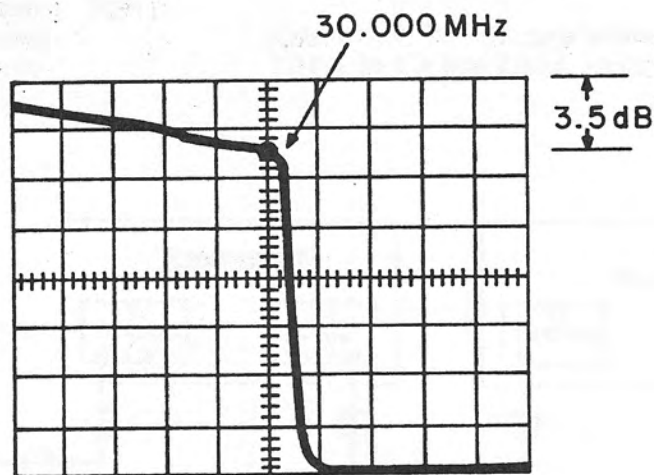

Figure 6-2. RF Filter Alignment, Typical Response
(11) While observing spectrum analyzer, adjust L1 through L5 of A2A1 for maximum amplitude at 30.000 MHz and sharpest roll-off above 30.000 MHz. See figure 6-2 for typical waveform.
(12) Increase tracking generator output 10 dB and spectrum analyzer output 40 dB.
(13) Position marker at 42.905 MHz, while holding rf filter cover on tightly. The response level at this frequency should be down at least 90 dB from that at 30.000 MHz (adjust LOG REF LEVEL).
(14) Deenergize receiver.
(15) Disconnect test equipment.